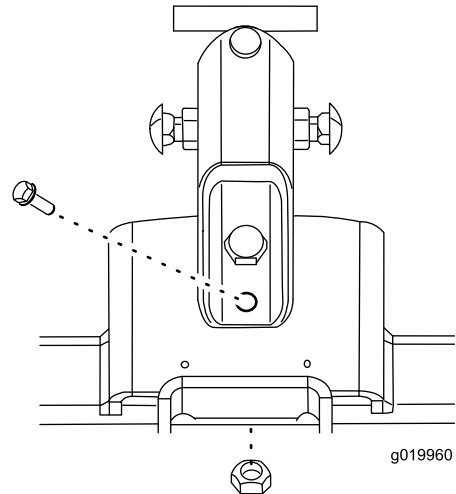

Figure 7
5. Install a screw (3/8 inch) into the newly drilled hole and secure the bracket assembly with a flange nut (3/8 inch) (Figure 7).